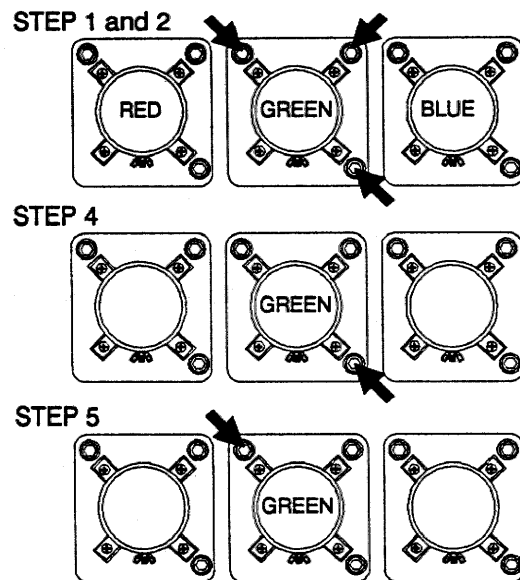

FIGURE S2-3.
- STEP 1. Tighten all three lens adjustments, then turn counterclockwise 3/4 of a turn. Refer to Figure S2-3.
- STEP 4. **GREEN ONLY !** Adjust the lower right lens adjustment until the upper right corner of the image is focused. See Figure S2-3. Repeat lens focus procedure if necessary at this time.
- STEP 5. **GREEN ONLY !** Adjust the upper left lens adjustment for side to side focus. See figure S2-3